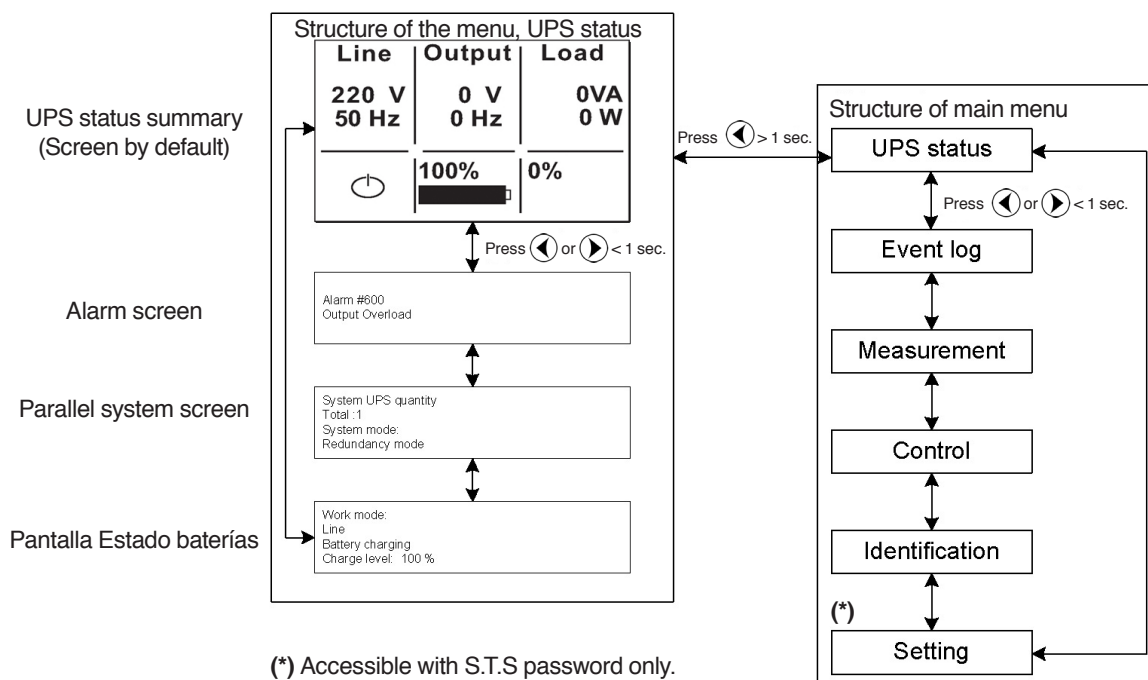

Fig. 33. Main screen structure.
- From the same main screen, when pressing the key for more than 1 sec., the Structure of the main menu will be displayed (see figure 33).